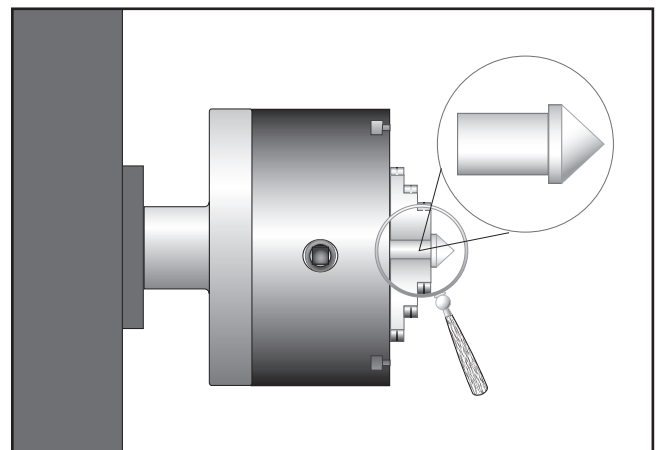

Figure 29. The fabricated dead center.
3. Make a dead center by turning a shoulder on a similar piece of round stock, then flip the piece over in the chuck and turn a 60° point (see **Figure 29**).